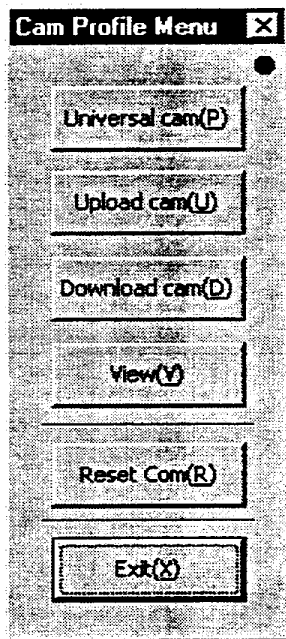

Figure 7.48 "Cam Profile Menu" dialog box
Click "*Parts (C)*" under "MainMenu" to display the "Cam Profile Menu" dialog box (see Figure 7.48).